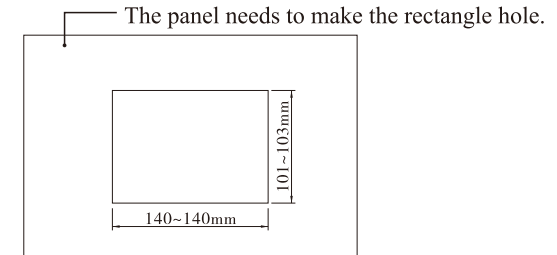

Figure 1
①As Figure 1 shows, making the rectangle hole (length:140~142mm; width:101~103mm). The shape edge of the hole should be burring, so as to prevent the damage of controller surface.